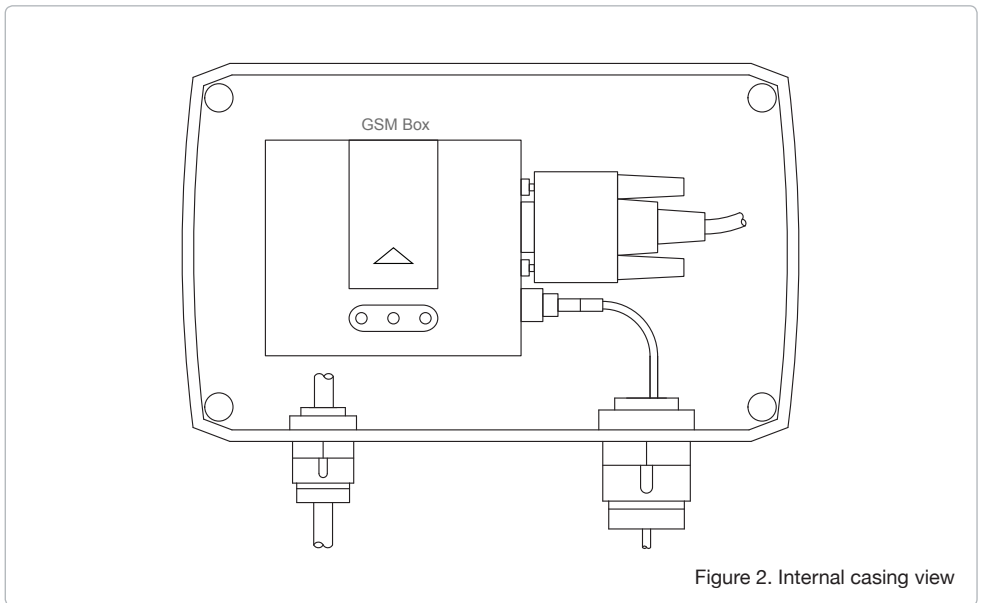

Figure 2. Internal casing view
4. Feed the plug of the aerial through the large cable gland, screw into the silver socket on the GSM unit and tighten the cable gland (see figure 2).